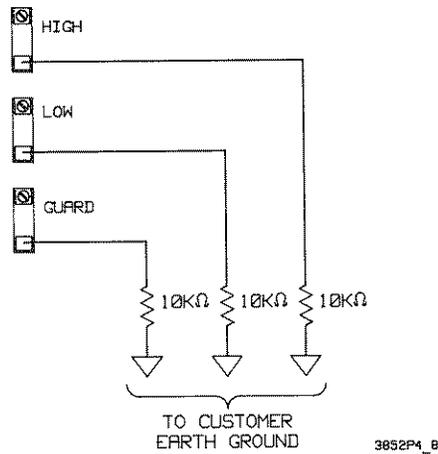

Figure 4-1. Discharging the HP 3852A Backplane
*If the backplane is not discharged after making a high-voltage measurement, the voltage present on the backplane must be added to the voltage being switched on the next channel to determine the total relay contact voltage. See Figure 4-1 for guidelines to maximize relay life and prevent damage to sensitive transducers by high backplane discharge voltages.*